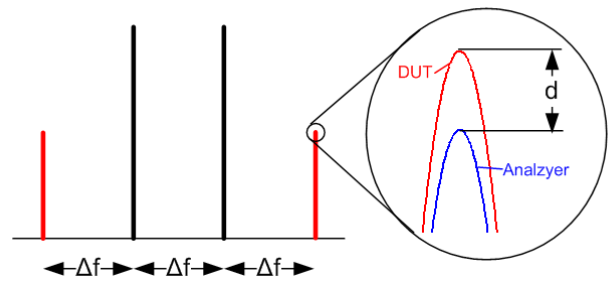

Figure 8. The detailed view shows the difference in IM amplitude between analyser and DUT.
where d is the negative amplitude difference between the IM products of the analyser and DUT in dB, -10 dB in the above example (see Figure 8). For in-phase IM products, the elements in equation (5) within brackets are added. For opposite phase products they are subtracted. Referring to the above example, the calculation becomes (IM cancellation due to opposite phases assumed):